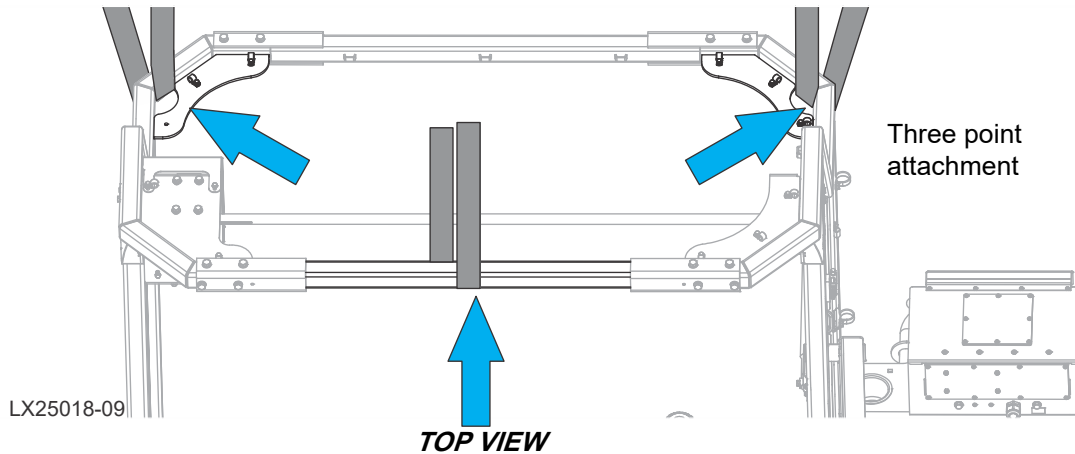

FIG. 2-1
3. Securely attach lifting straps of your lifting device (fork lift, crane, etc.) to the top of the mast as shown in Figure 2-1.
See Figure 2-1.